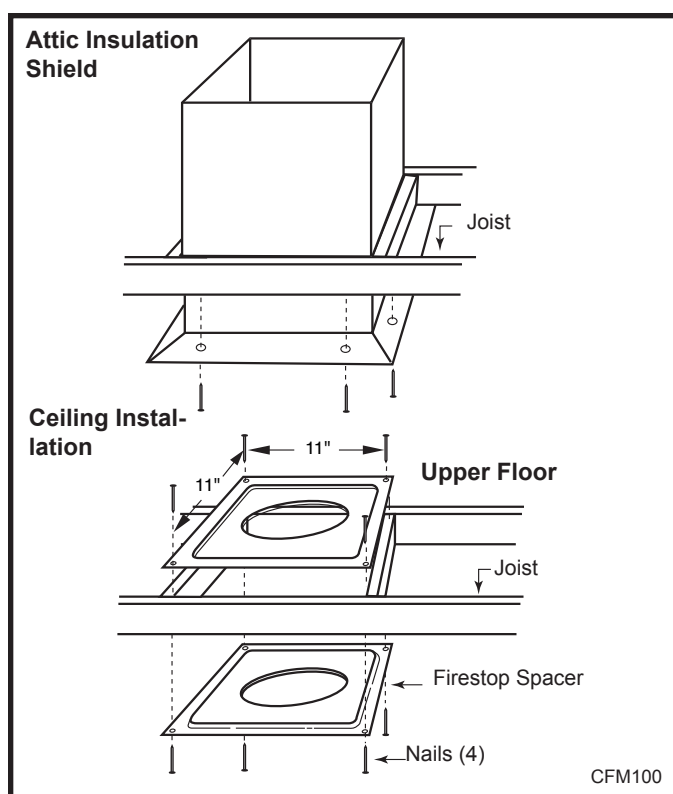

Fig. 37 Place firestop spacer(s) and secure.
6. Place firestop(s) #7DVFS or Attic Insulation Shield #7DVAIS into position and secure. (Fig. 37)
If there is room above ceiling level, firestop spacer must be installed on both the bottom and the top side of the ceiling joists. If an attic is above ceiling level a 7DVAIS (Attic Insulation Shield) must be installed. (Fig. 37)